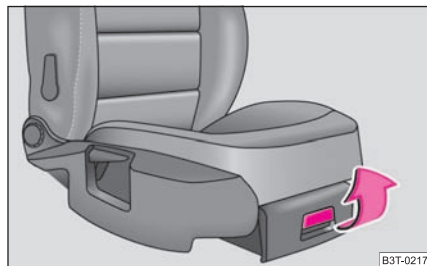

Fig. 98 Front passenger seat: Storage compartment
- Tilt the lock to open the flap and pull out the flap ⇒ fig. 98.